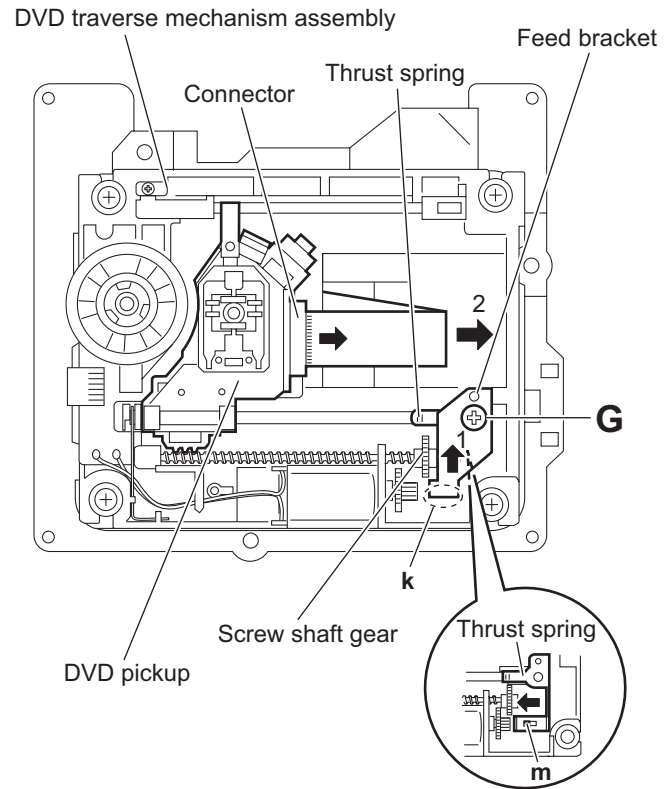

Fig.12
### 3.3.7 Removing the DVD pickup (See Figs.12 to 14)
- (1) From the top side of the DVD traverse mechanism assembly, release the lock of the connector on the DVD pickup and disconnect the card wire in the direction of the arrow. (See Fig.12.)
- (2) Turn the screw shaft gear in the direction of the arrow 1 to move the DVD pickup in the direction of the arrow 2. (See Fig.12.)
- (3) Remove the screw **G** attaching the feed bracket and remove the feed bracket from the sections **k**. (See Fig.12.)
- (4) Release the claw **m** of the thrust spring in the direction of the arrow and remove the thrust spring. (See Fig.12.)
### 3.3.8 Attaching the DVD pickup (See Figs.12 to 14)
- (3) Attach the thrust spring and feed bracket with the screw **G**. (See Fig.12.)